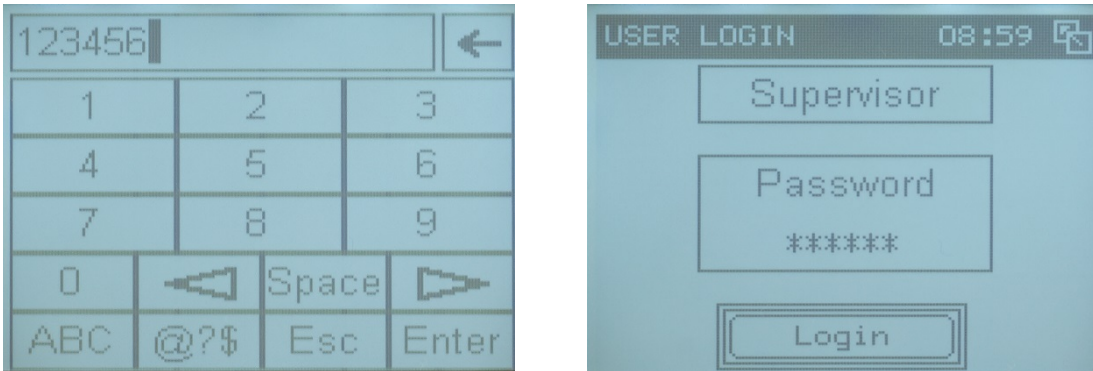

Figure 24: Password entry screen (left). Supervisor login screen (right)
2. Select the access level from the user login screen (see Figure 24) then choose **Password** (see Figure 24) to open the password entry screen